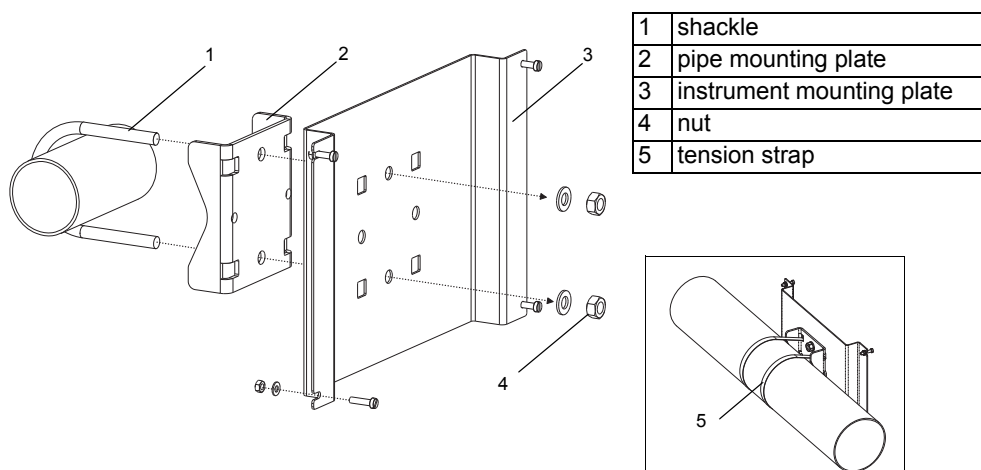

Fig. 6.3: Pipe installation set
- Fix the pipe mounting plate (2) to the pipe (see Fig. 6.3).
- Fix the instrument mounting plate (3) to the pipe mounting plate (2) with the nuts (4).
- Fix the bottom side of the housing to the instrument mounting plate (3).
The mounting kit is fixed to the pipe with tension straps (5) instead of the shackle (see Fig. 6.3.).
- Push the tension straps (5) through the holes in the instrument mounting plate (3).